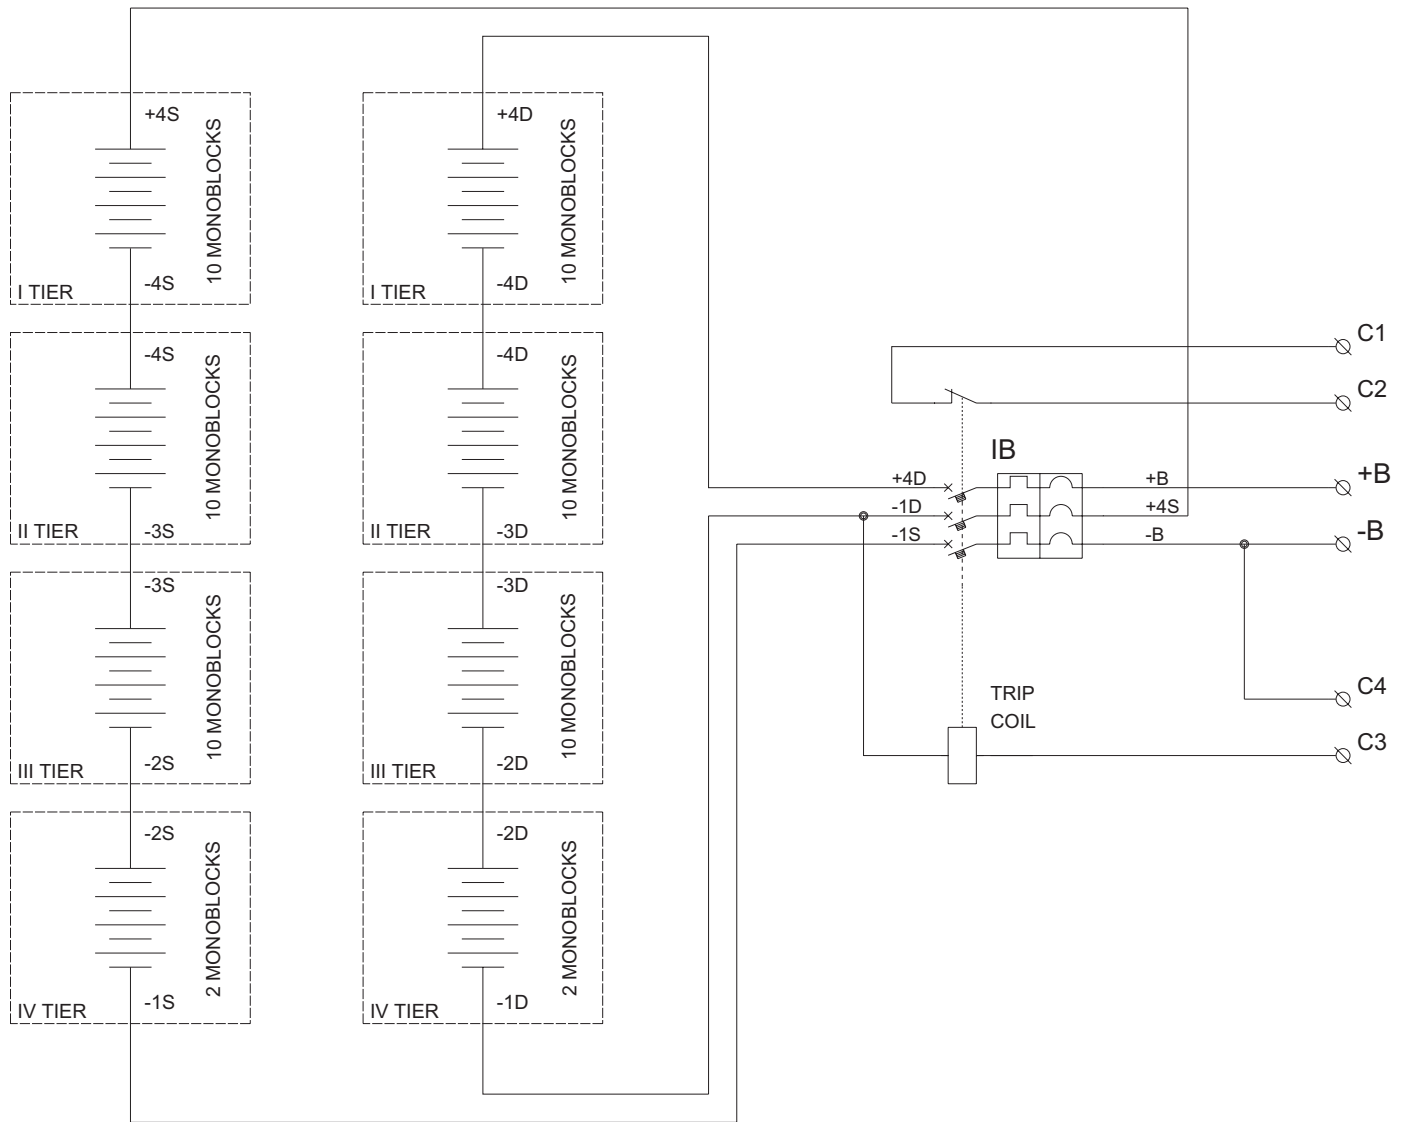

FIG. 1.10.5 BC4D internal electrical connections
- Connect the battery blocks of the various levels to the battery switch IB, and IB to the terminals, as shown in fig. 1.10.5